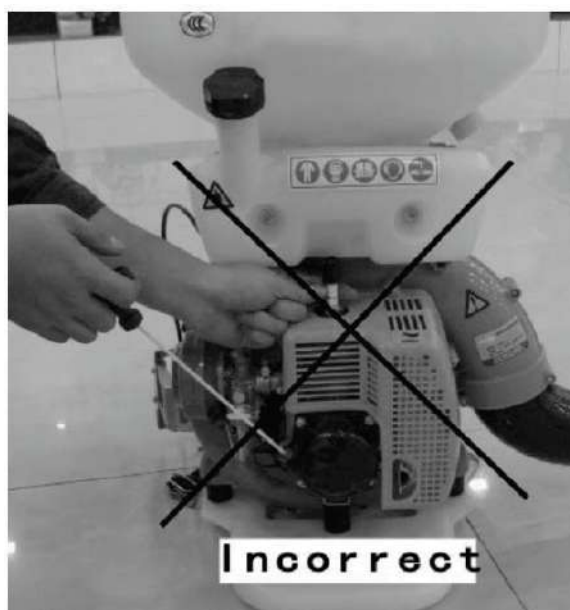

Fig 15
(1) Engine starts difficultly or can not start. Check if the sparking plug has sparked-over. Screw down the sparking plug, put the side pole to touch the cylinder. Pull the starter and watch between the poles of sparking plug whether there are sparks. Pull the starter carefully, do not touch the metal part of sparking plug for prevention of getting an electric shock as shown in Fig.15.